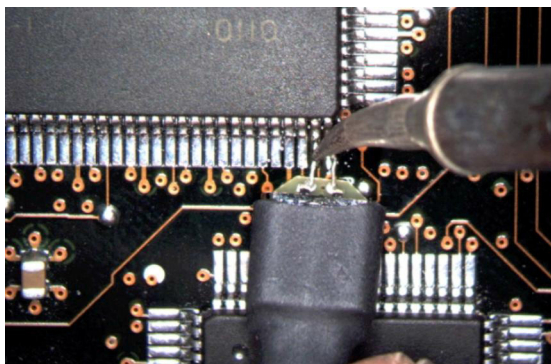

Figure 50 Positioning Wires
- 5 Position the probe head wires on the DUT leads and quickly re-flow the solder as shown in Figure 50.